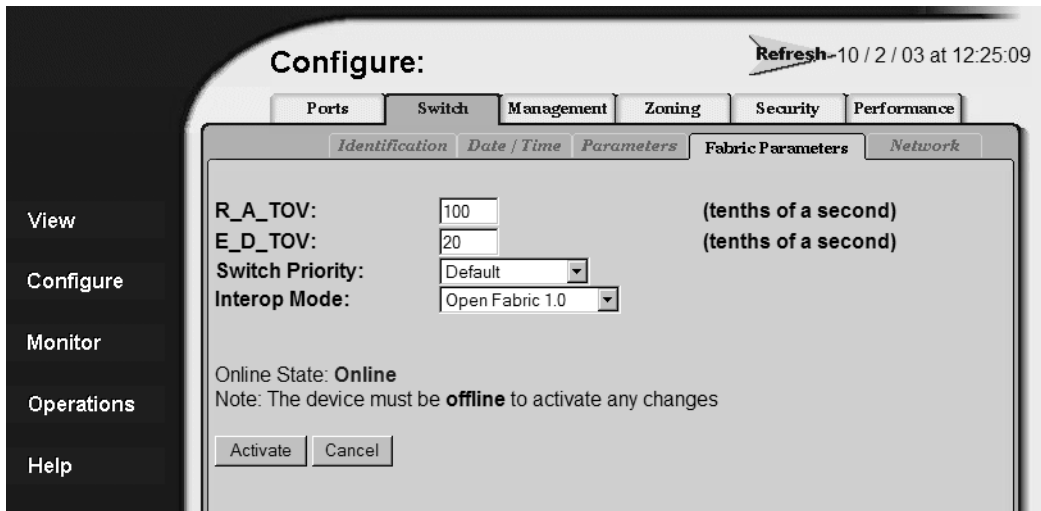

Figure 18: Switch page—Fabric Parameters tab
3. Choose **Switch >Fabric Parameters**. The Switch page displays with the **Fabric Parameters** tab selected (Figure 18).